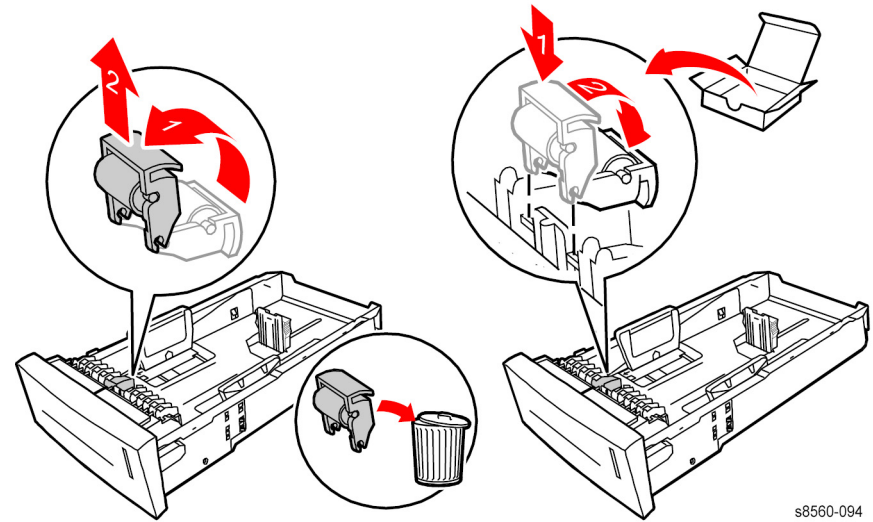

Figure 2 Replacing the Retard Roller
3. Lift the Retard Roller to vertical, then pull the roller from the shaft in the tray. See Figure 2.